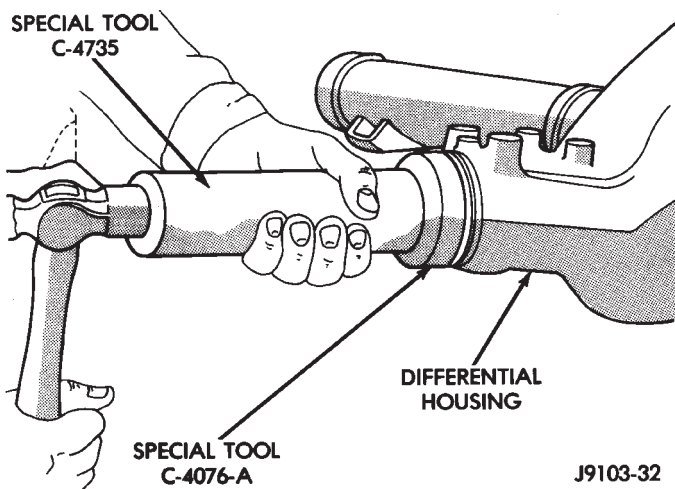

Fig. 7 Pinion Shaft Seal Installation
(4) Install the replacement pinion shaft seal (Fig. 7) with Seal Installer C-4076-A and Handle C-4735-1.